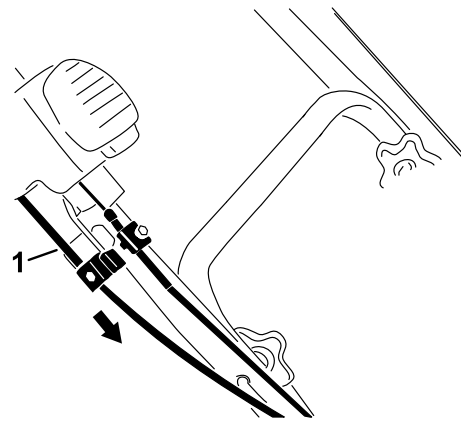

Figure 37
4. Hold the discharge chute in the straight-ahead position, pull the lower cable casing downward until you remove the slack in the cable, and tighten the screw on the lower cable clamp securely (Figure 37).